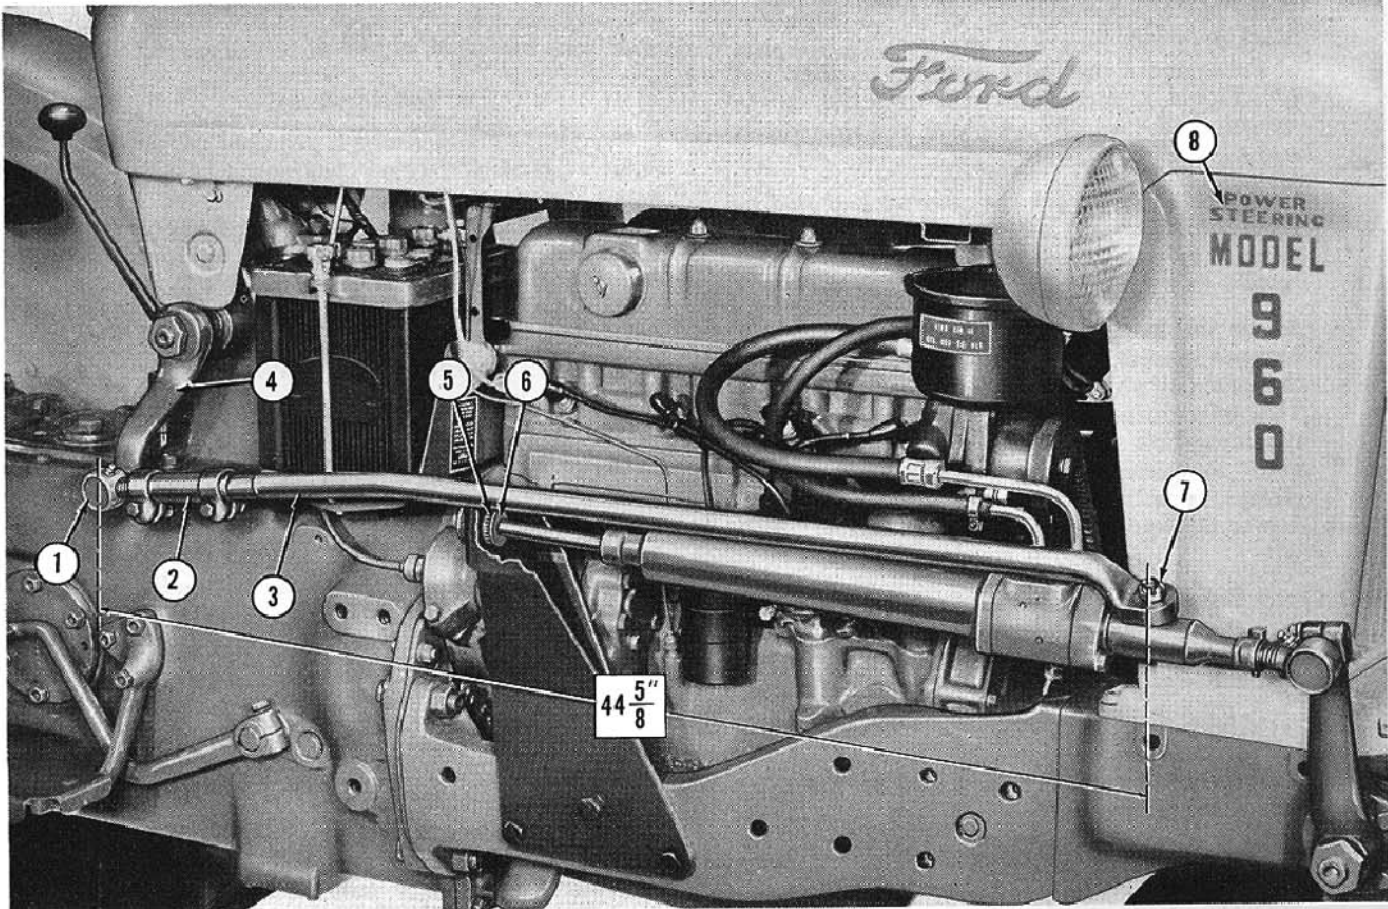

Figure 5
- b. Install the new Pitman steering arm on the steering sector shaft as shown at (4), Figure 5, so that the mark on the arm aligns with the center of the blank teeth at the top of the sector shaft.
- c. Install the inner insulator washer (6), Figure 5, on the rod end of the cylinder assembly so that it bears against the shoulder on the rod. Install the rubber insulator (5), Figure 5, on the rod end so that it bears against the inner insulator washer.
1. Thread the sleeve (2), Figure 5, partially on the drag link (3), and assemble the two clamps on the sleeve as shown. Secure loosely with two $\frac{7}{16}$ -20 x $1\frac{7}{8}$ " hex head bolts, $\frac{7}{16}$ " lockwashers and $\frac{7}{16}$ -20 hex nuts.
2. Thread the conventional rear ball stud (1), partially into the opposite end of the drag link sleeve.
- a. Connect the adjustable end of the drag link to the Pitman steering arm as shown at (1), Figure 5, and secure in position with the conventional lockwasher, castellated nut and cotter pin.
- b. Turn the tractor steering wheel to align the front drag link hole with the steering ball stud of the cylinder and valve assembly as shown at (7), Figure 5, and connect the drag link to the steering ball stud using a $\frac{1}{2}$ -20 hex slotted nut and $\frac{1}{8}$ x 1" cotter pin.
- c. Adjust the assembled drag link length to $4\frac{45}{8}$ " between centers of the steering ball stud at (7), and rear ball stud at (1), as shown in Figure 5. This adjustment is made by turning the screw type drag link sleeve (2). After adjustment has been completed, secure the two drag link clamps in position as shown in Figure 5.
3. Position the power steering decals on the left and right hood side panels, above the word "Model" as shown at (8), Figure 5.